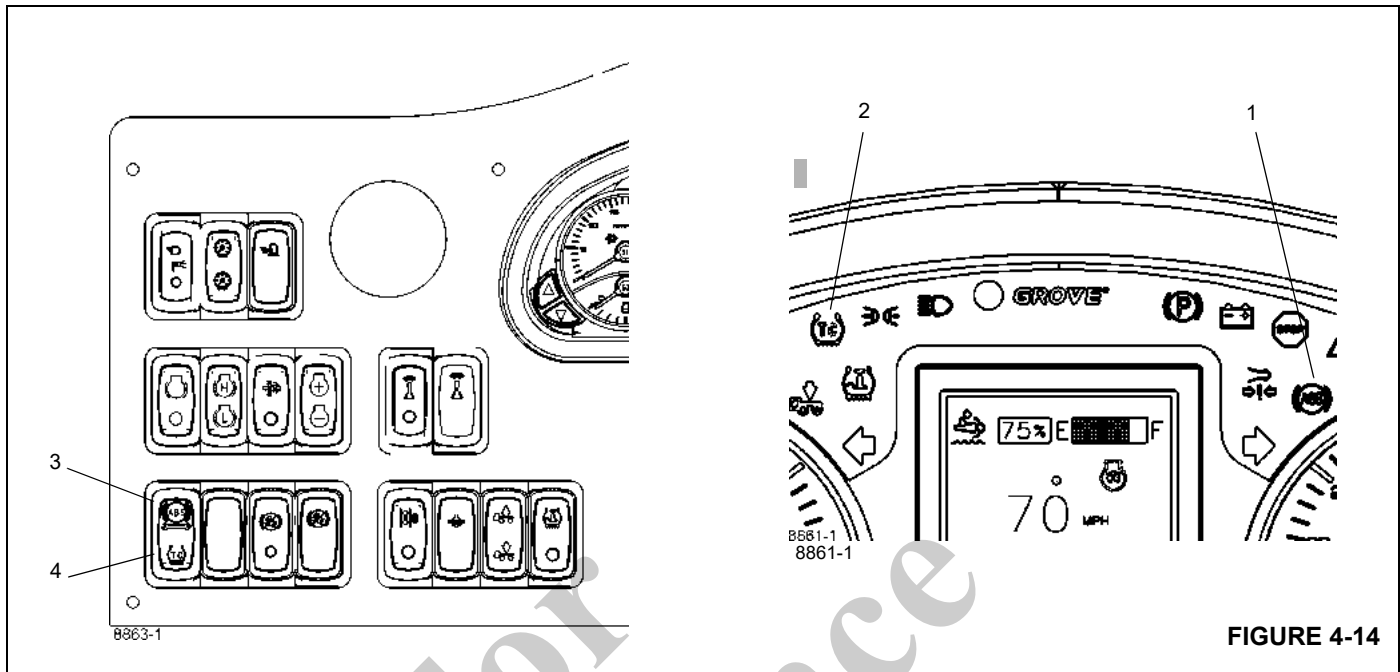

FIGURE 4-14
When ignition power is applied, the ECU will illuminate the ABS indicator lamp (1), (Figure 4-14) for approximately three seconds, after which the lamp will extinguish if no diagnostic trouble codes are detected.
The ABS/Traction Control switch (3), (Figure 4-14) is used to diagnose system problems along with blink codes displayed on the ABS indicator, see the *Service Manual* for more information.
- The ATC off-road switch (4), (Figure 4-14) allows greater wheel spin (more torque) when activated. It is intended for adverse conditions, usually off-highway. The switch turns on ATC off-road when pushed once and off when pushed a second time and whenever the system goes through a power-up cycle.
The ATC Indicator (2), (Figure 4-14) will flash rapidly when ATC is operating.
The ECU will illuminate the Automatic Traction Control (ATC) lamp (2), (Figure 4-14) for approximately 2.5 seconds when ignition power is applied, after which the lamp will extinguish, if no diagnostic trouble codes are detected.
To activate ATC off-road mode, push the bottom of the ABS/Traction Control switch (4), (Figure 4-14) once. When the